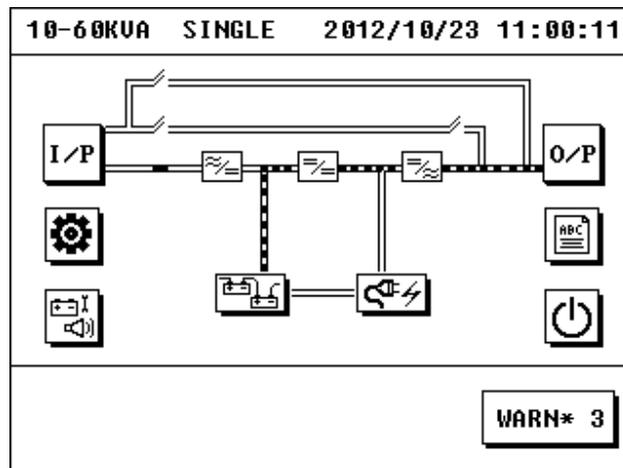

Figure 3.10 Battery Mode
- Close output breaker, and then the UPS output is normal and starting by battery is finished. Its energy flow is shown in figure 3.10: